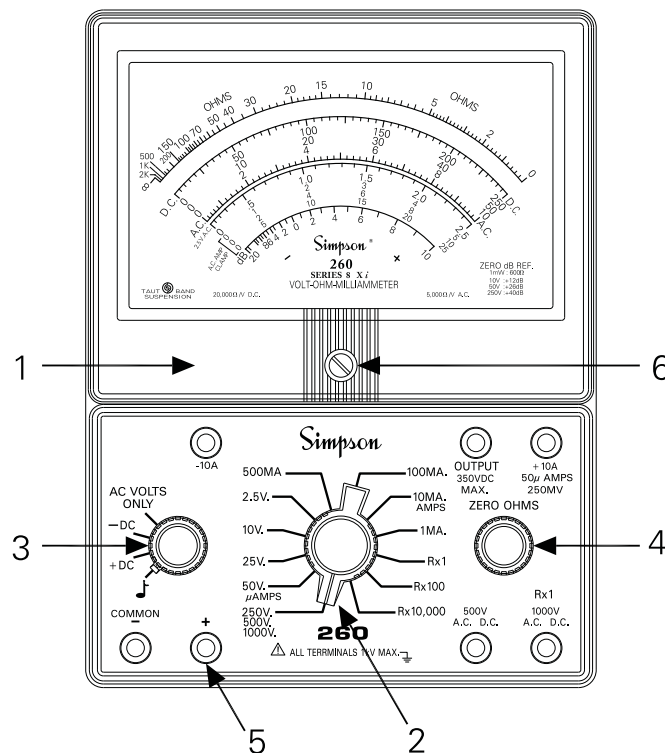

Figure 3-1. Front Panel Controls, Jacks and Indicators
5. Circuit Jacks: There are seven jacks on the front panel marked with the functions they represent (Figure 3-1). These jacks provide the electrical connections to the test leads. The COMMON (-) jack is used (in conjunction with the black test lead) as the reference point for the measurement of all the functions with the exception of the 10A range.